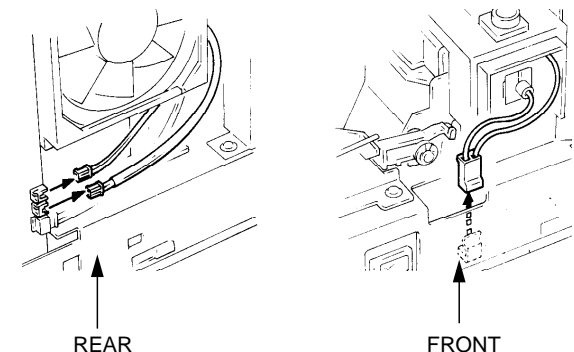

Figure 1. Fuser assembly connectors
4. Disconnect the connector CN101 on the LV power supply (figure 1).